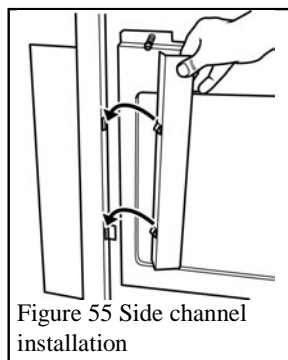

Figure 55 Side channel installation
- Fit the two side channels by hooking into the openings at the sides of the firebox as shown in figure 55.